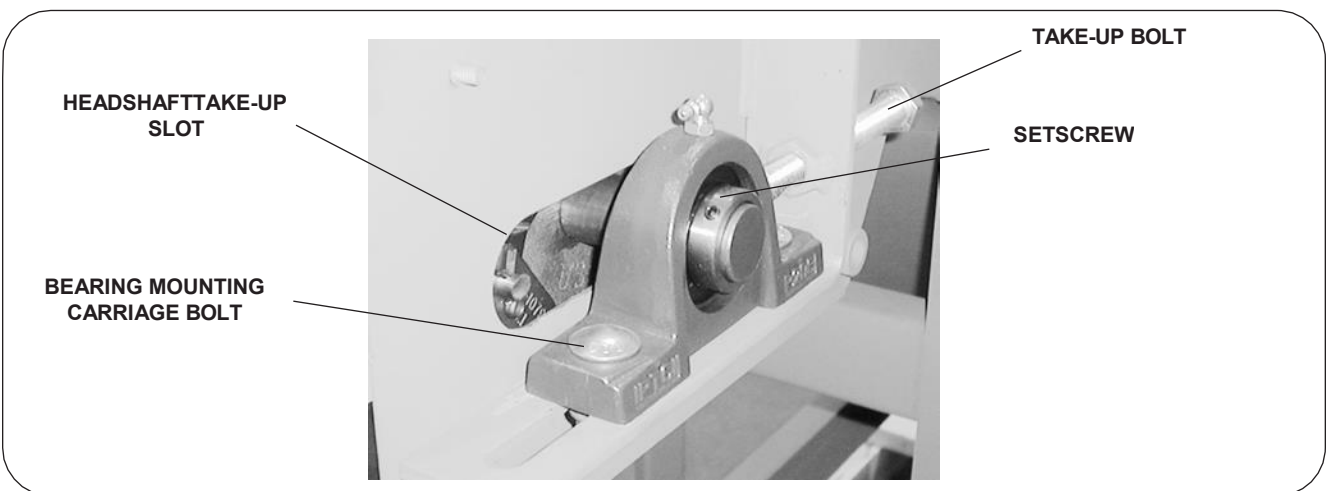

Figure 6. Headshaft Take-Up Slot and Flange Bearing
- Loosen the setscrews on the flange bearing or pillow block bearing so that the headshaft can be moved laterally. (See Figure 6.)
D. If the headshaft has lateral movement in the bearings: Check the headshaft-bearing mounting carriage bolts for tightness (Figure 6). If either is loose, proceed as follows:
5. Loosen the bearing mounting carriage bolts (Figure 6).